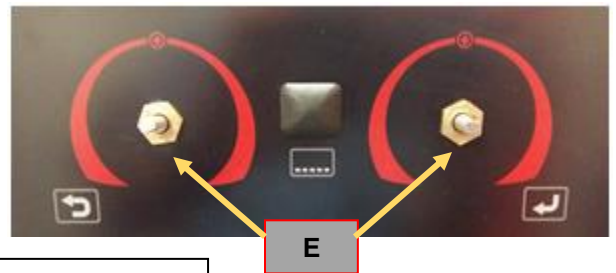

Figure 1b
6. Using the 2 mm allen wrench remove the two knobs. See **Figure 1b**.
7. Using the 10 mm wrench to remove the two encoder nuts (E). See **Figure 1b**.